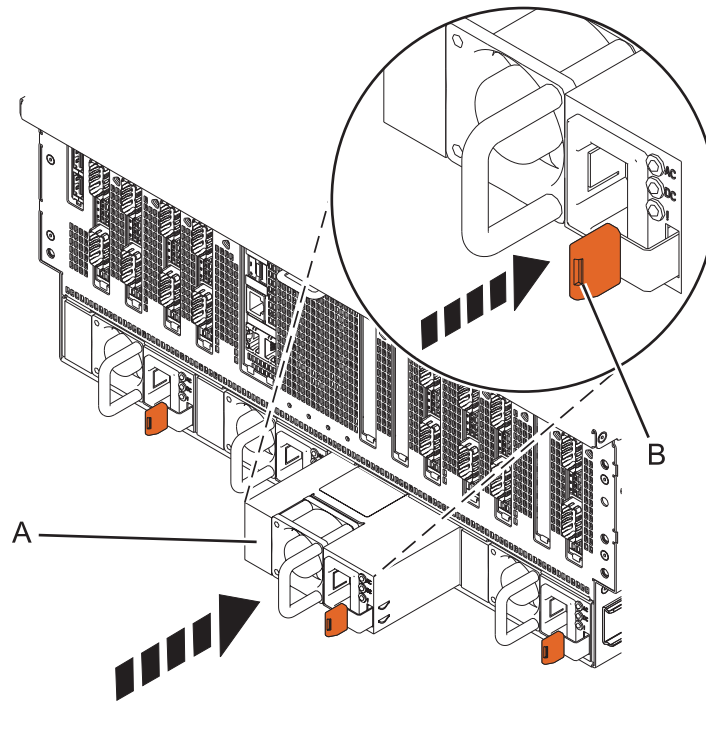

Figure 17. Replacing a power supply in the system
3. Align the power supply **(A)** with the bay and slide the power supply into the system until the terracotta latch **(B)** locks in place, as shown in Figure 17 on page 17.